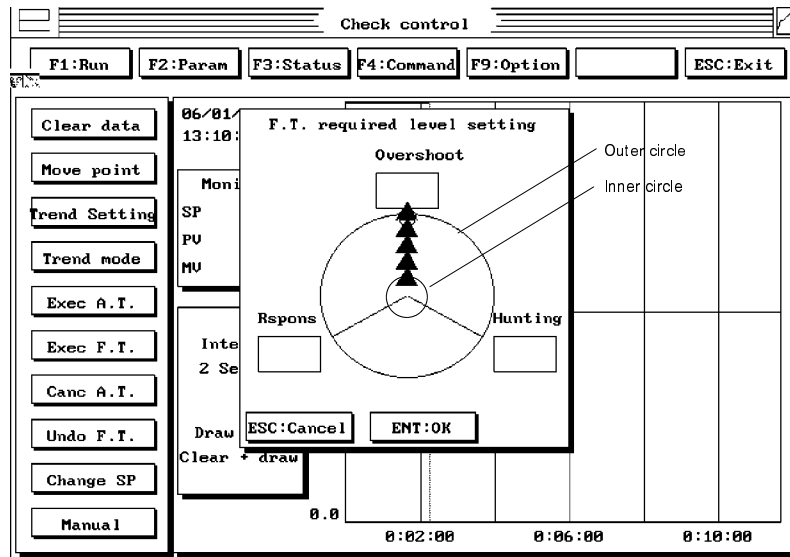

Figure 23
4. Another pop-menu appears which allows you to set fuzzy logic fine tuning (Figure 23).